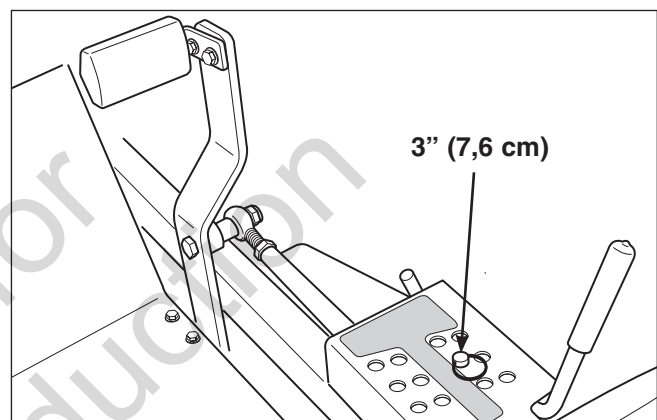

Figure 47. Deck Lift Pedal & Pin Position
5. Refer to Figure 47. Lock the deck lift pedal in the 5" (12,7cm) position. Remove the cutting height adjustment pin and lower the mower deck.